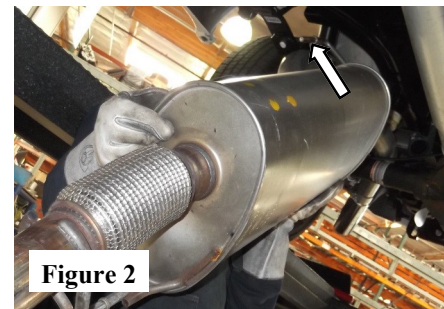

Figure 2
2. Using a muffler stand or an additional person to support the exhaust system, loosen and slide the clamp behind the OE muffler. Remove the hangers from the rubber isolators and remove the exhaust system from the vehicle. (See Figs. 2 & 3)